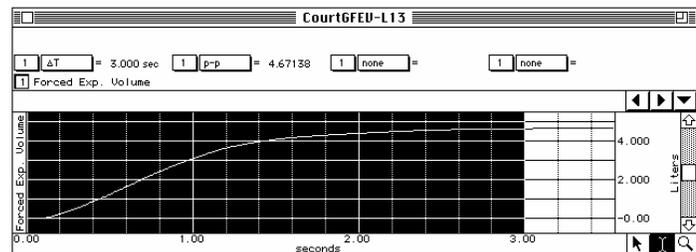

Fig. 13.20 FEV_3
7. Use the **I-beam** cursor to select the first three-second interval (Fig. 13.20).